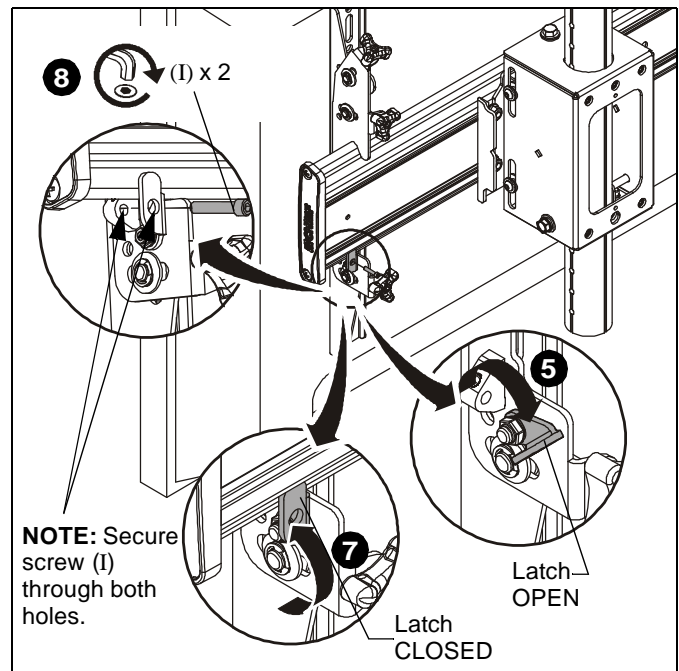

Figure 15
5. Open latch on attached interface brackets. (See Figure 15)
7. Raise latch on interface bracket and close into place against mounting rail. (See Figure 15)
8. Fasten latch into place using one 1/4-20 x 1-1/4" socket head screw (I). (See Figure 15)
- NOTE:** Socket head screws (I) must engage through both holes to be fully secured. (See Figure 15)